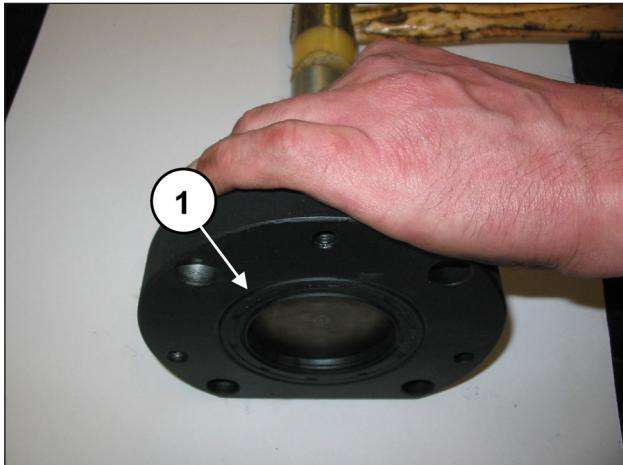
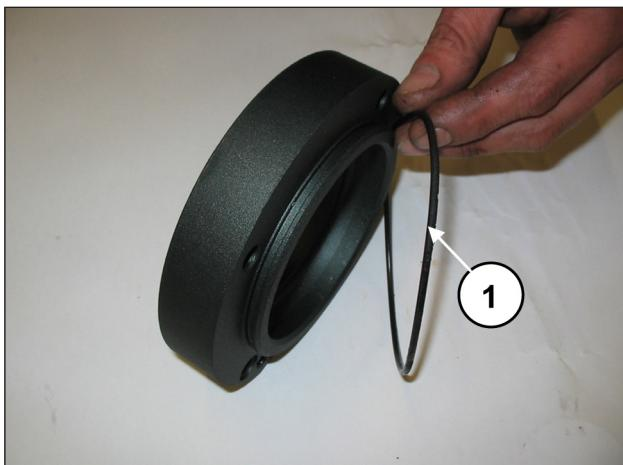
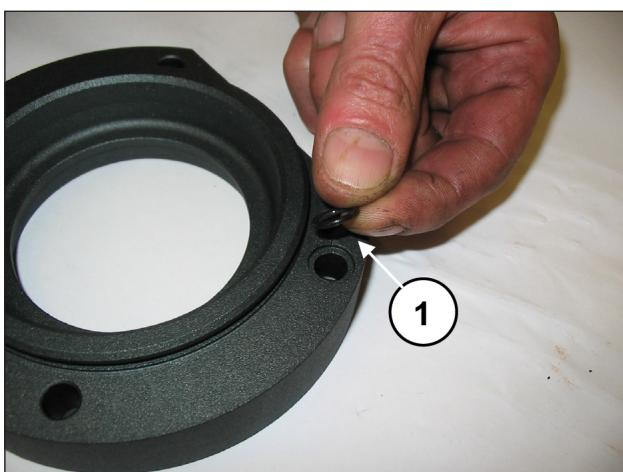

Fig. 28
Fig. 29
Fig. 30
Remove the radial seal ring (pos. ①, Fig. 28), the external O-ring (pos. ①, Fig. 29) and the O-ring of the lubrication hole (pos. ①, Fig. 30).